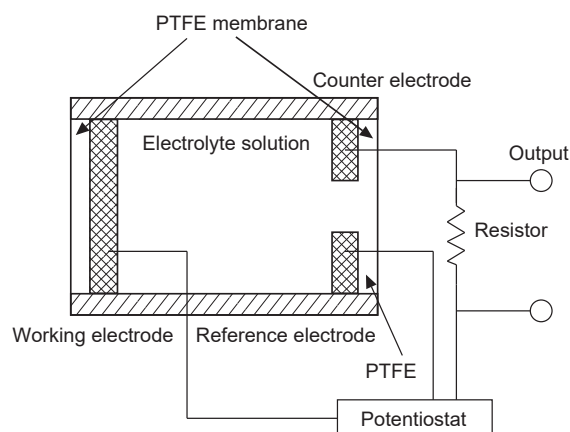

Fig. 3 - Schematic diagram of operating principle
TGS4260 is a potentiostatic electrolysis-type oxygen sensor. Figure 3 shows the structure of TGS4260 oxygen sensor. The working electrode (WE), the counter electrode (CE), and the reference electrode (RE) respectively comprise a gas permeable membrane and a noble metal catalyst, all of which are in contact with the liquid electrolyte and contained in a resin housing. The electrolytic current generated between WE and CE is measured while an external power supply (potentiostatic circuit) controls the potential of the WE with respect to the RE potential. When TGS4260 sensor is placed where oxygen is present, by maintaining the potential of the WE at a predetermined negative value with respect to the RE potential, reduction of oxygen occurs on the WE, and oxidation of water occurs on the CE at the same time. During these electrochemical reactions, ionic conduction occurs in the electrolyte and electronic conduction occurs in the external circuit. Output voltage proportional to oxygen concentrations can be measured by converting the generated electrolytic current which is proportional to oxygen concentration.